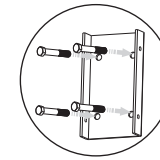
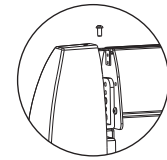

figure 5
figure 7
- 2 Install the fixation on the wall (choose the screws according to the materials of wall, Use the screw of accessory 7 for concrete-wall, and use the screw of accessory 8 for wood-wall) as figure 5. And then, install the Main Bar Overview to the fixation and fasten the screws (accessory 5). Finally, connect the GPE Adjusting Overview to the adjuster and then fasten the screws (accessory 6) as figure 7.